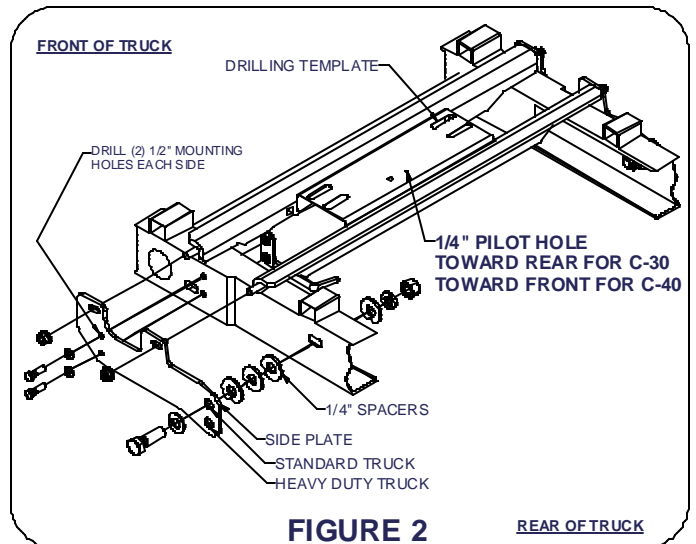

FIGURE 2 REAR OF TRUCK
- 4) Align the side plates with the 1" slots in the frame. Place the 1" hex bolts through washer, side plate, three 1/4" thk. spacers, and frame as shown in **Figure 2**. Use a 1/4" thick spacer, lock washer, and hex nut on the inside of frame to secure in place. Finger tight only. **(Note: See Figure 2 for proper placement of the 1" bolt.)**
- 7) With side plates clamped and rear cross arm secure, position the drilling template provided between the cross arms as shown in **Figure 2**. Attach the template to cross arms using four 5/8" carriage bolts and flange nuts provided with the center section. Tighten the 5/8" flange nuts with a 15/16" socket. **(Note: Template must be positioned correctly based on application as shown in Figure 2.)**
- 13) With center section installation complete, the final side plate mounting holes can be drilled. Use holes toward front of side plate as a guide to drill two 1/2" holes through the frame both sides. **(See Figure 2 on page 1.)**